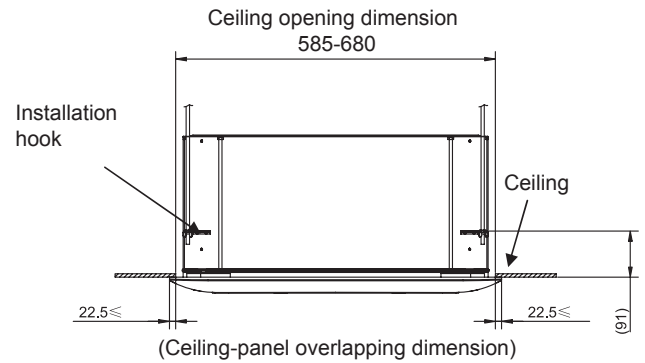

Fig 3-2 Unit:mm
- The maximum ceiling opening size is 680mm. Pay attention that there must be an overlapping between panel and ceiling. (Fig 3-2)